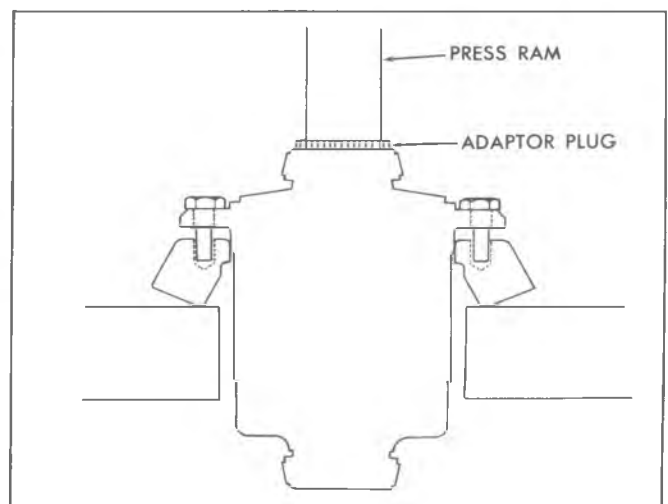

Fig. 5B--Ring Gear-to-Case Installation
3. Liberally coat the differential case pilot with hypoid lubricant. Pre-align ring gear and differential case bolt holes, and press on adaptor plug J-8107-4 to initially start ring gear on case pilot, as shown in figure 5B.